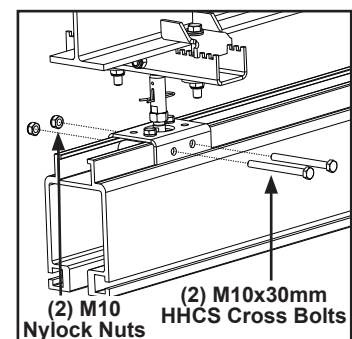

Figure 3-62
- Step 2. Install two (2) M10 x 100 mm HHCS with M10 nylock nuts. **Tighten until bolts are snug + 1/4 turn.** Do not over tighten. Over tightening could cause bracket to bend. See Figure 3-62